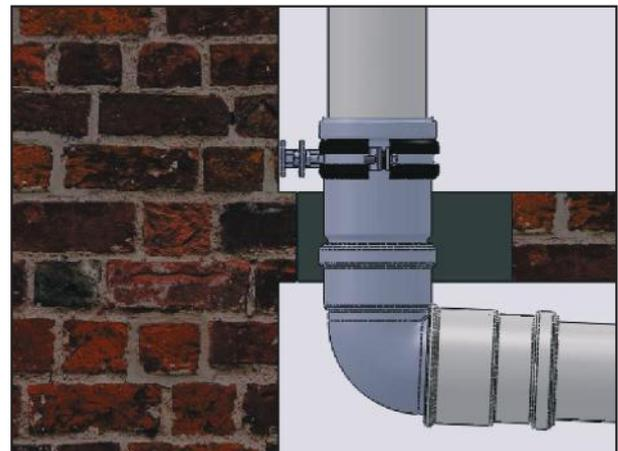

Figure 8
- The wall-mounted clamps should be placed directly on the fitting at the lower ends of the pipes without sockets. **(Figure 8)**